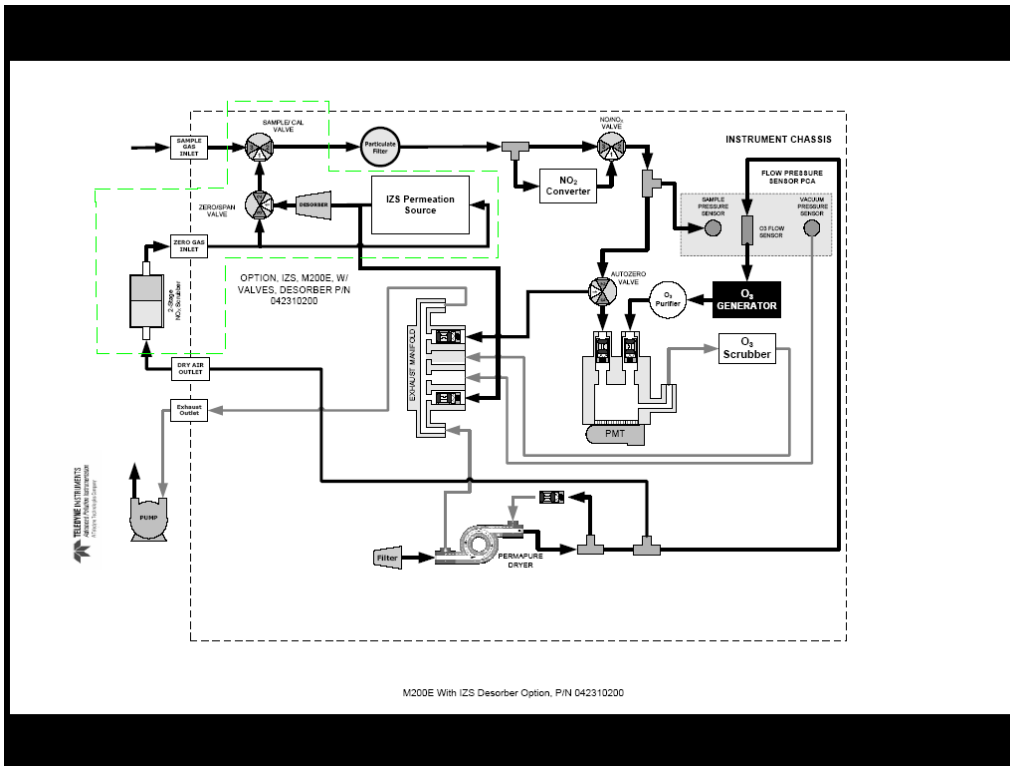

Figure 3 (Retrofit for NO2 holdup)
9. Mark or memorize tubing locations to all tubings on valves, refer to Figures 3 and 4. Remove all tubings from the valve fittings. Remove and discard the tubing that connects